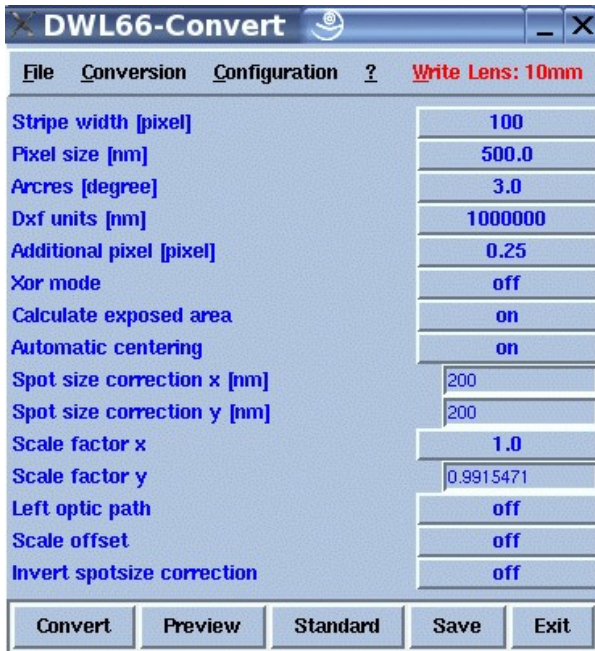

Figure 2-23: DWL66 Convert Advanced Menu
- **Convert PC advanced menu:** Click on the “*Advanced*” button to get the the advanced menu. In general there is very little that needs to be changed in the advanced menu with the exception of the *extra pixel*. See the next few steps for details (figure 2-23)